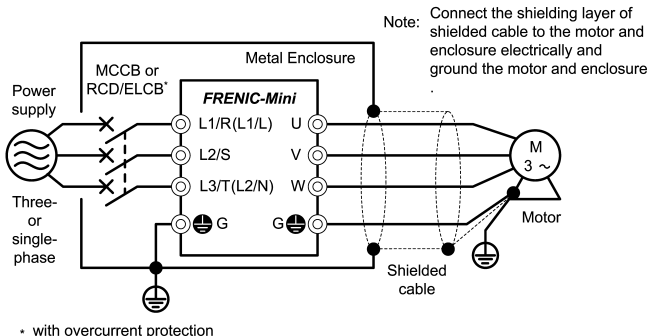

Figure 11.5 Installing the Inverter into a Metal Enclosure
- (4) If noise from the inverter exceeds the permissible level, enclose the inverter and its peripherals within a metal enclosure as shown in Figure 11.5.